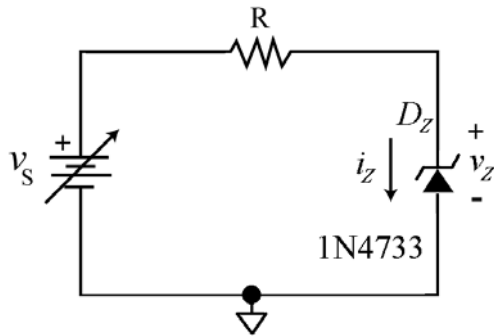

Fig. 6. – Test circuit to investigate the diode characteristic in the *breakdown* region.
Sufficiently to the left of the breakdown knee, the diode curve is approximately straight so we characterize it by measuring v_Z for *two* different values of i_Z using the circuit of Fig. 6.
MC5: In the circuit of Fig. 6 measure V_Z for $I_{Z1} = 5$ mA ($R = 1$ k Ω) and $I_{Z2} = 20$ mA ($R = 100$ Ω). As you measure V_Z , use as many digits as your DVM will allow (why?). Next, denoting the corresponding voltages as V_{Z1} and V_{Z2} , calculate the *dynamic resistance* of the diode as $r_z = (V_{Z2} - V_{Z1}) / (I_{Z2} - I_{Z1})$. Finally, use Eq. (7) to find the extrapolated value of V_{Z0} .